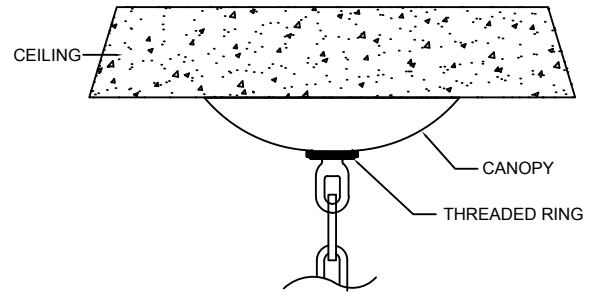

FIGURE-05
11. Slide the canopy up the chain and fasten using the threaded ring to the ceiling. (See Figure-05)